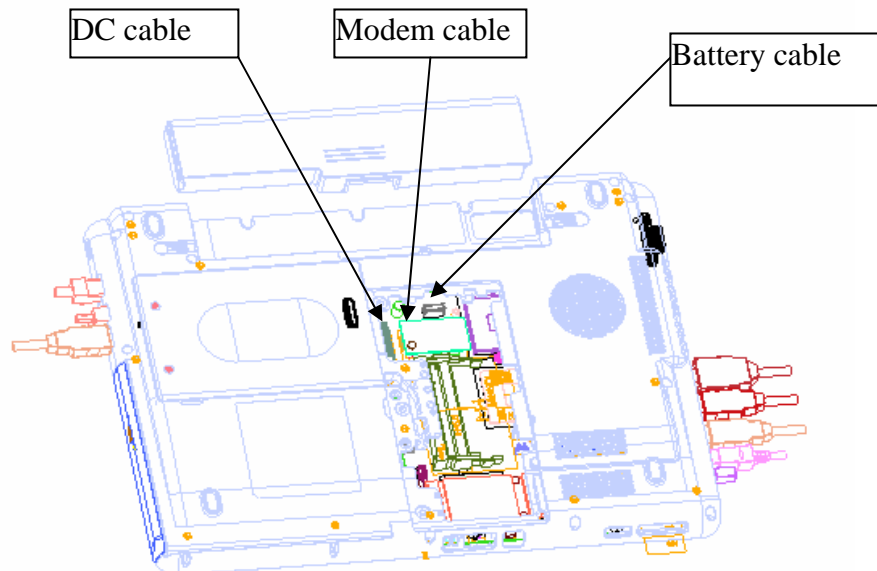

Figure 4-26 Disconnect the Battery cable and DC cable
6. Remove the following **screws** securing the system board and remove the **system board**. (See Figure 4-26)
The following describes the procedure for installing the system board (See Figure 4-26).